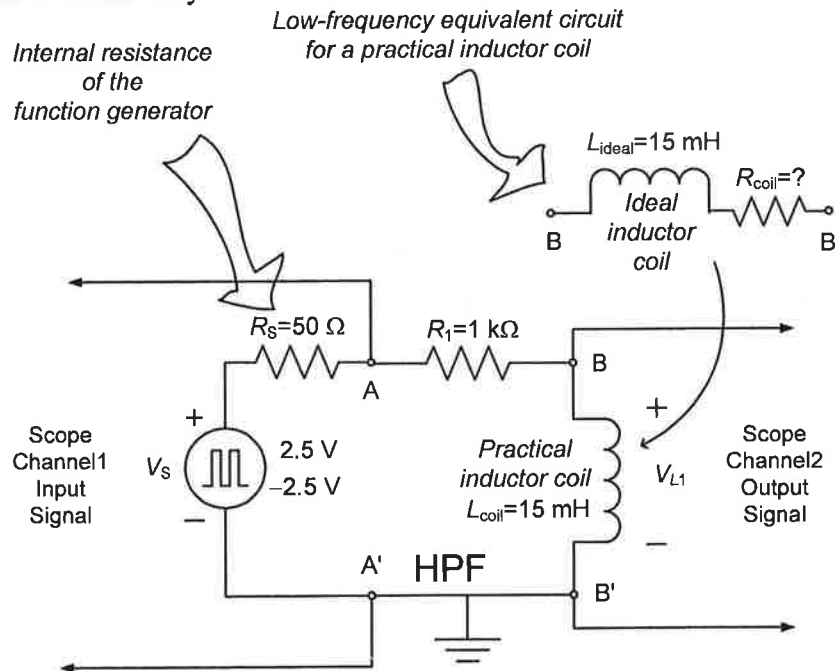

Figure 3. First-order  $RL$  circuit connected like a High-Pass Filter (HPF).
**Lab Experiment 1.c:** Switch the places of the 15 mH inductor and 1 kΩ resistor as shown in Fig. 3. Use the two oscilloscope channels to observe the voltage waveforms  $V_S(t)$  and  $V_{L1}(t)$  simultaneously at the same frequencies used in Lab Experiments 1.a and 1.b. Sketch and label the waveforms. Explain what this circuit does and why.